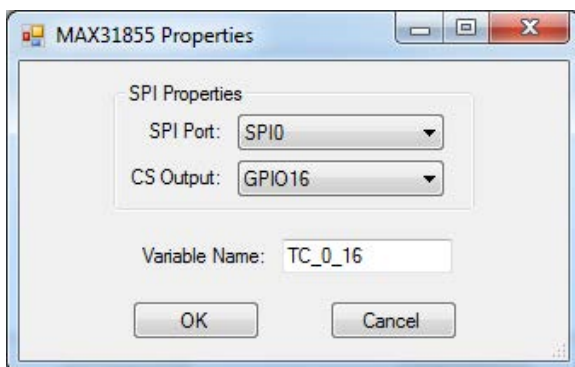

Figure 15-26
Select the SPI port from the drop down menu and select the general purpose output pin (GPO) that will serve as this device's chip select (CS). See Figure 15-26. Any chip select pins reserved for structured text will not be visible in the drop-down menu.